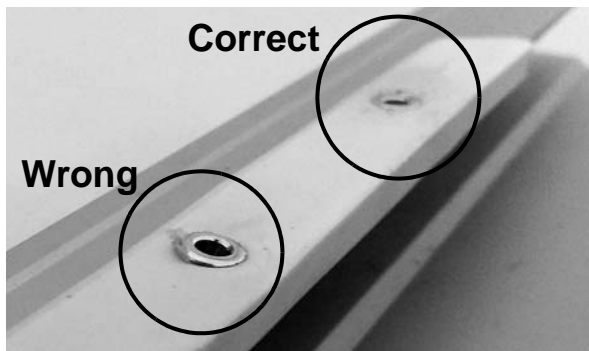

Figure 45
2. Check that the rivets do not protrude over the surface of the slide rail. Check both top and underneath surface of slide rail for protruding metal. (See **Figure 45**.)